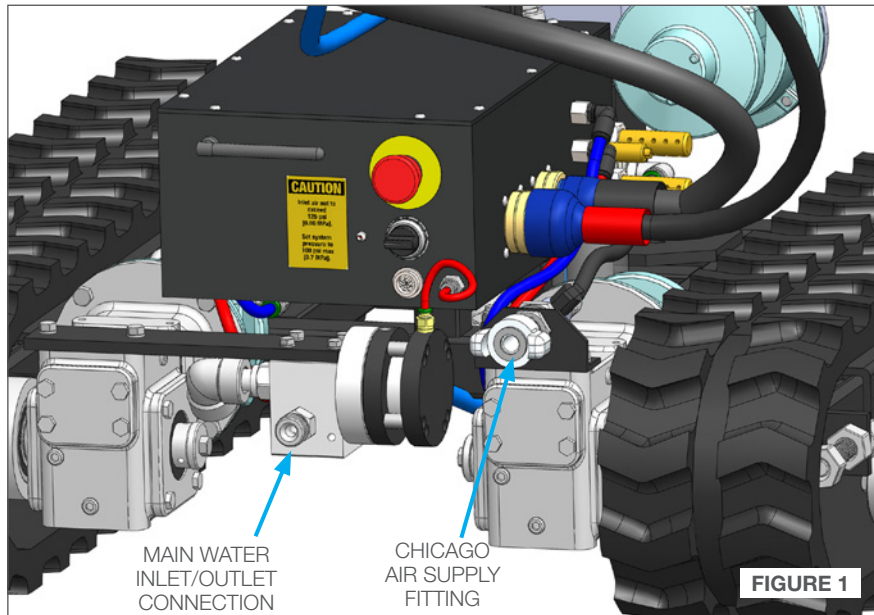

FIGURE 1
1. The Tracked Striker is supplied with a twist claw style inlet coupling (Chicago style) located to the right of the Emergency Shut Off button. **(Figure 1)** Connect a compatible compressed air line (not included) according to the Manufacturer's instructions. If another pneumatic connection is preferred, this fitting can be removed and any male 1/2 in NPT fitting may be used. Connect the water supply hose to the Main Water Inlet/Outlet connection to the left of the Air Supply fitting.